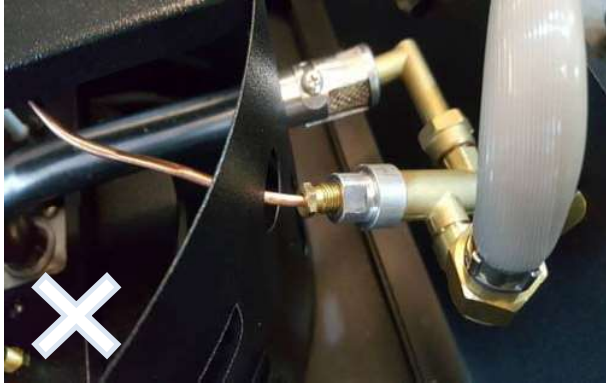
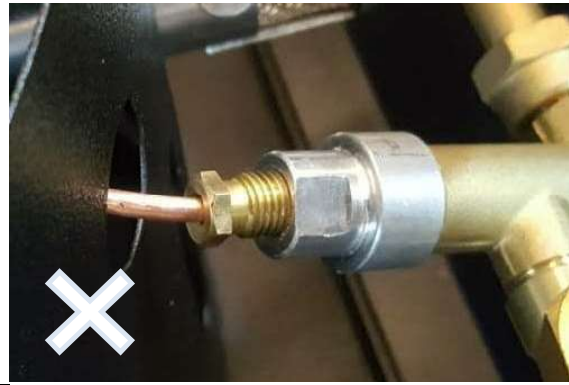

Fig. 4
Fig. 5
**Fig 4 and Fig 5, FFD Thermocouple copper wire thread is NOT tightened correctly**